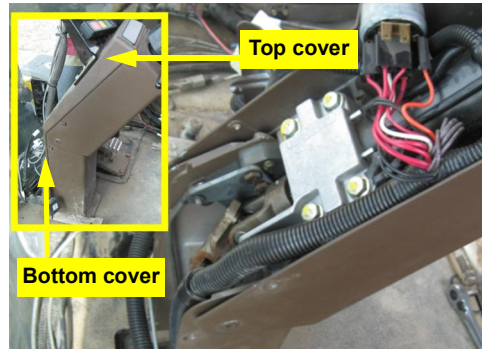

Figure 1a: Steering column covers removed
- a. Remove the top, then bottom front steering column panels (nearest the windscreen) to expose the steering shaft (Figure 1a).